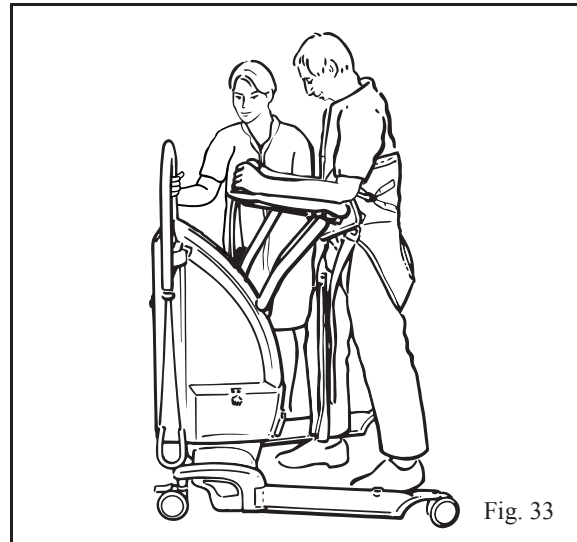

Fig. 33
10. With the Proactive Pad removed and the brakes released, the patient is able to walk at their own pace, while being supported by the Sara Plus. (See Fig 33)